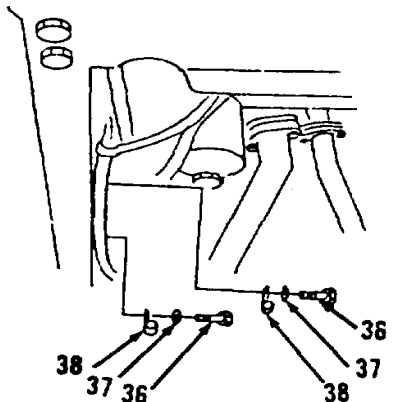

Figure 10-170.
- 18. Install two clips (38), washers (37) and bolts (36, Figure 10-170).